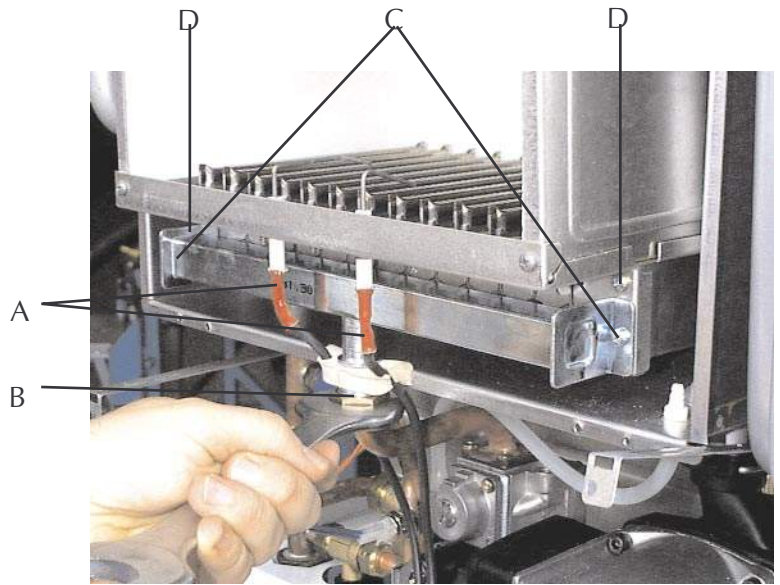

Fig. 32
7.08 Removal of burner (fig. 32)
7.09 Injectors (fig. 32)